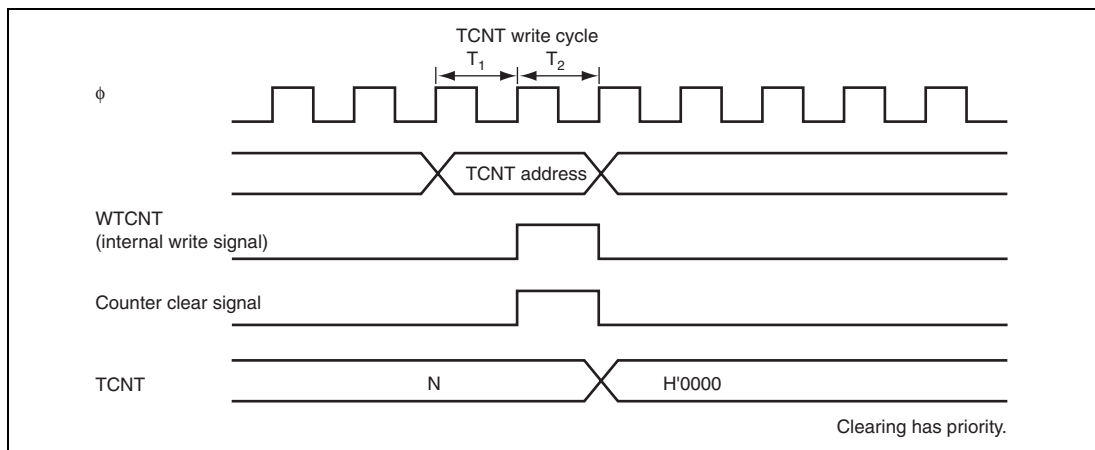

Figure 14.52 Contention between TCNT Write and Clear Operations
1. Contention between TCNT Write and Clear Operations: If a counter clear signal is generated in the T_2 state of a TCNT write cycle, TCNT clearing has priority and the TCNT write is not performed. Figure 14.52 shows the timing in this case.